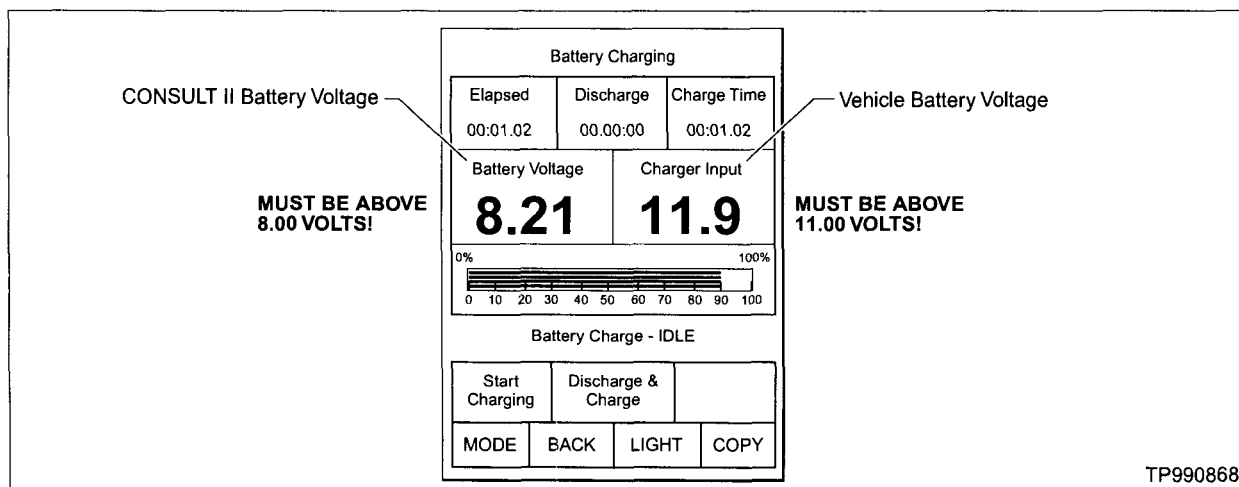

Figure 16
21. Refer to Figure 16. The vehicle battery voltage is "Charger Input". "Battery Voltage" is CONSULT-II's battery voltage.